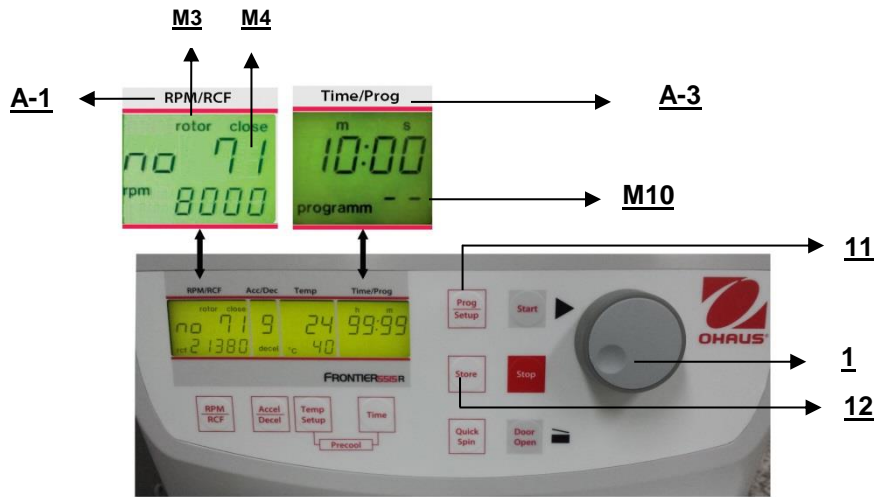

Figure. 25
To recall stored programs press the key "Prog/Setup" (11) (refer to figure 25) while the lid is already closed. Inside the display "Time/Prog" (A-3), "programm –"(M10) appears. The desired program number can be pre-selected with the adjusting knob (1).
To leave the program mode just press the key **"Prog/Setup"** (11) (refer to figure 25). Then inside the display **"Time/Prog"** the word **"programm"** appears.